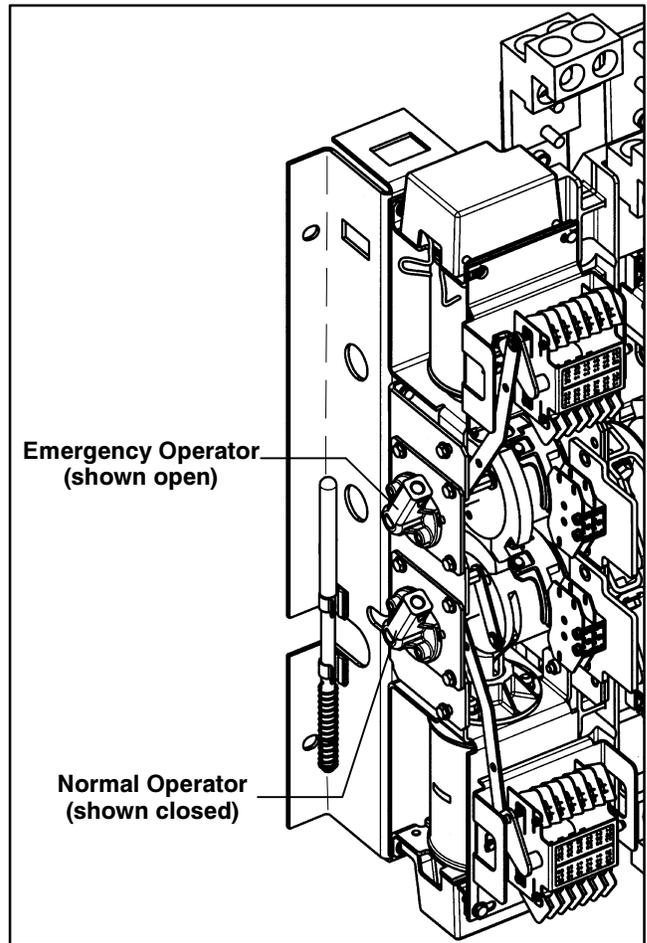
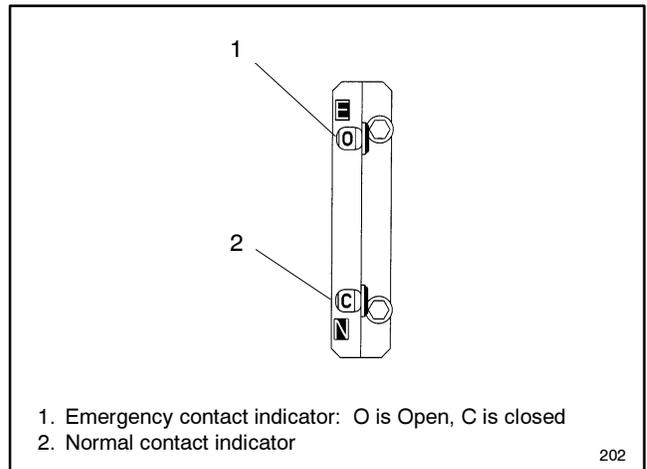

Figure 2-13 Programmed-Transition Switch Normal and Emergency Operators, 600-1200 Amp Model (shown in Normal position)
Figure 2-14 Contact Position Indicators (located on the right side of the contactor assembly, shown in Normal position)
Programmed-transition switches have two operators, Normal and Emergency, on the left side of the contactor assembly. Mechanical interlocks prevent closing both operators at the same time. Refer to Figure 2-13 for typical locations of the Normal and Emergency operators.
Position indicators on the right side of the contactor assembly show the positions of the operators. See Figure 2-14.
1. Starting with the contactor in the Normal position, use the maintenance handle to move the Normal operator from the closed to the open position. See Figure 2-13 and Figure 2-14.